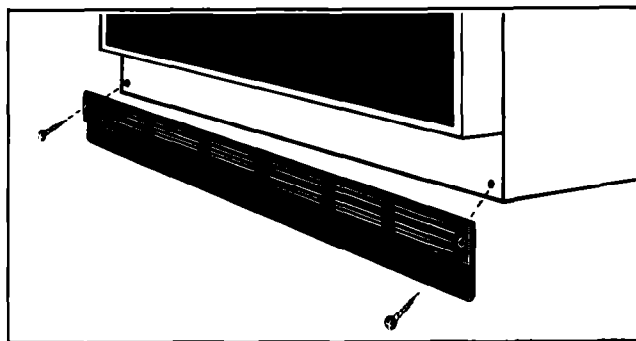

FIGURE 5
1. Line up the 2 mounting holes on the grille with the mounting holes on each side of the front oven frame, below the oven door (see Figure 5).